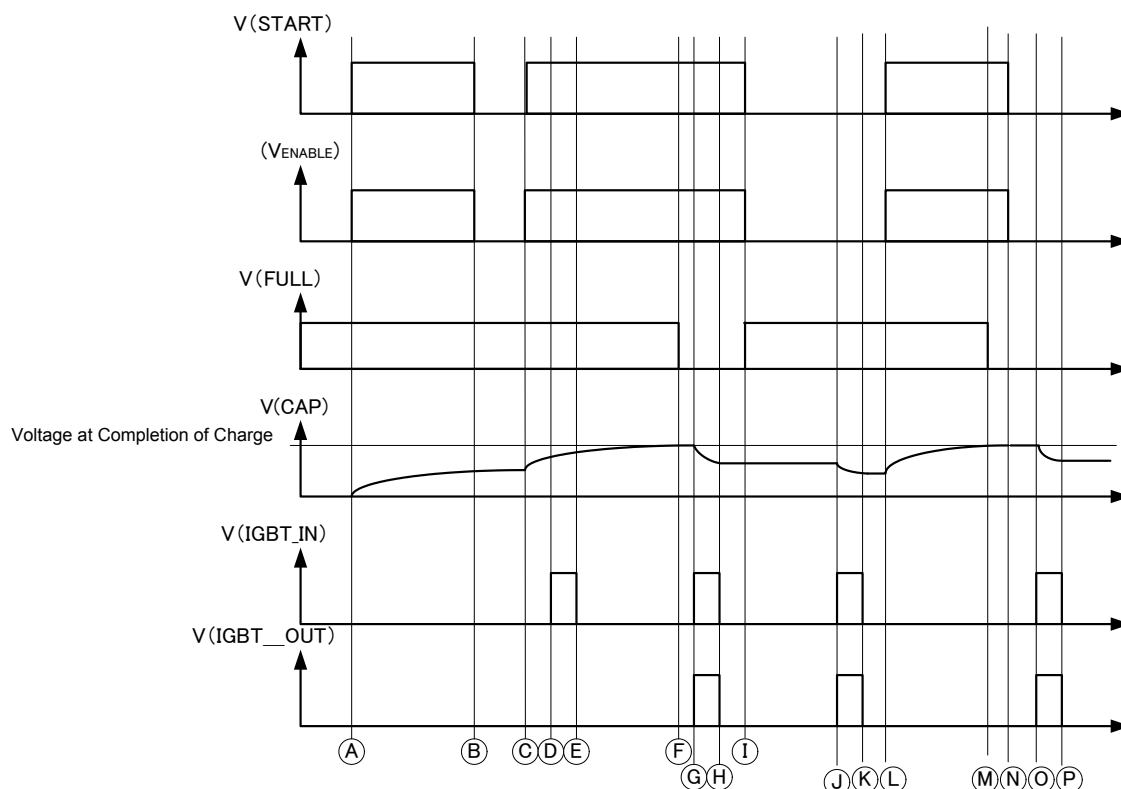

Fig 33 Timing Chart 1: Overall Operation
In this IC, a charging operation starts when the START pin is set to "H" (See Time ①, ③ and ⑤ in Fig 33.). In order to maintain the charging operation, the START pin must be set to "H". (See Time ① to ③, ③ to ⑤, ⑤ to ⑦ in Fig 33.) If any of the conditions ① to ③ are satisfied, the charging operation stops.
- ① The START pin is set to "L".
- ② Charging is completed. The VC pin voltage reaches the specified voltage. (See Time ⑥ and ⑧ in Fig 33.)
To re-charge, set the START pin to "L", and the FULL pin is changed from "L" to "H". Also, if the CHARGE\_ON pin is changed from "L" to "H" again, the charging operation re-starts. (See Time ③ in Fig 33.)
Set the IGBT\_IN pin to "H" when the IGBT driver satisfies the following 4 conditions. The "H" signal is output to the IGBT\_OUT pin. (See Time ④, ⑥ and ⑧ in Fig 33.)
- ① The VCC voltage is the UVLO release voltage or more.
- ② The FULL pin is set at "L".
- ③ Even if the IGBT\_IN pin is set to "H" while the START pin is set to "H", the IGBT\_OUT pin remains at "L" and no light flashes.